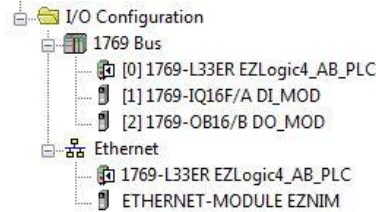

Figure 8: Generic Ethernet Module configured on RSLogix5000
5. After a new module has been created on the Controller Organizer, it would look like this. See figure 8: